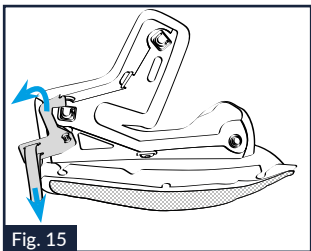

Fig. 15
12.1. Take the pad of the left cheek pad and check that the safety lever on the back is in the opening position (Fig. 15).